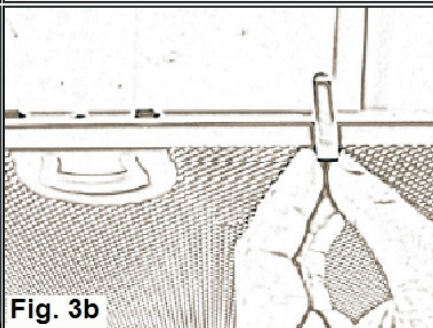

Fig. 3b
- d. Use the clips provided to secure the charcoal filter. (Fig. 3b)